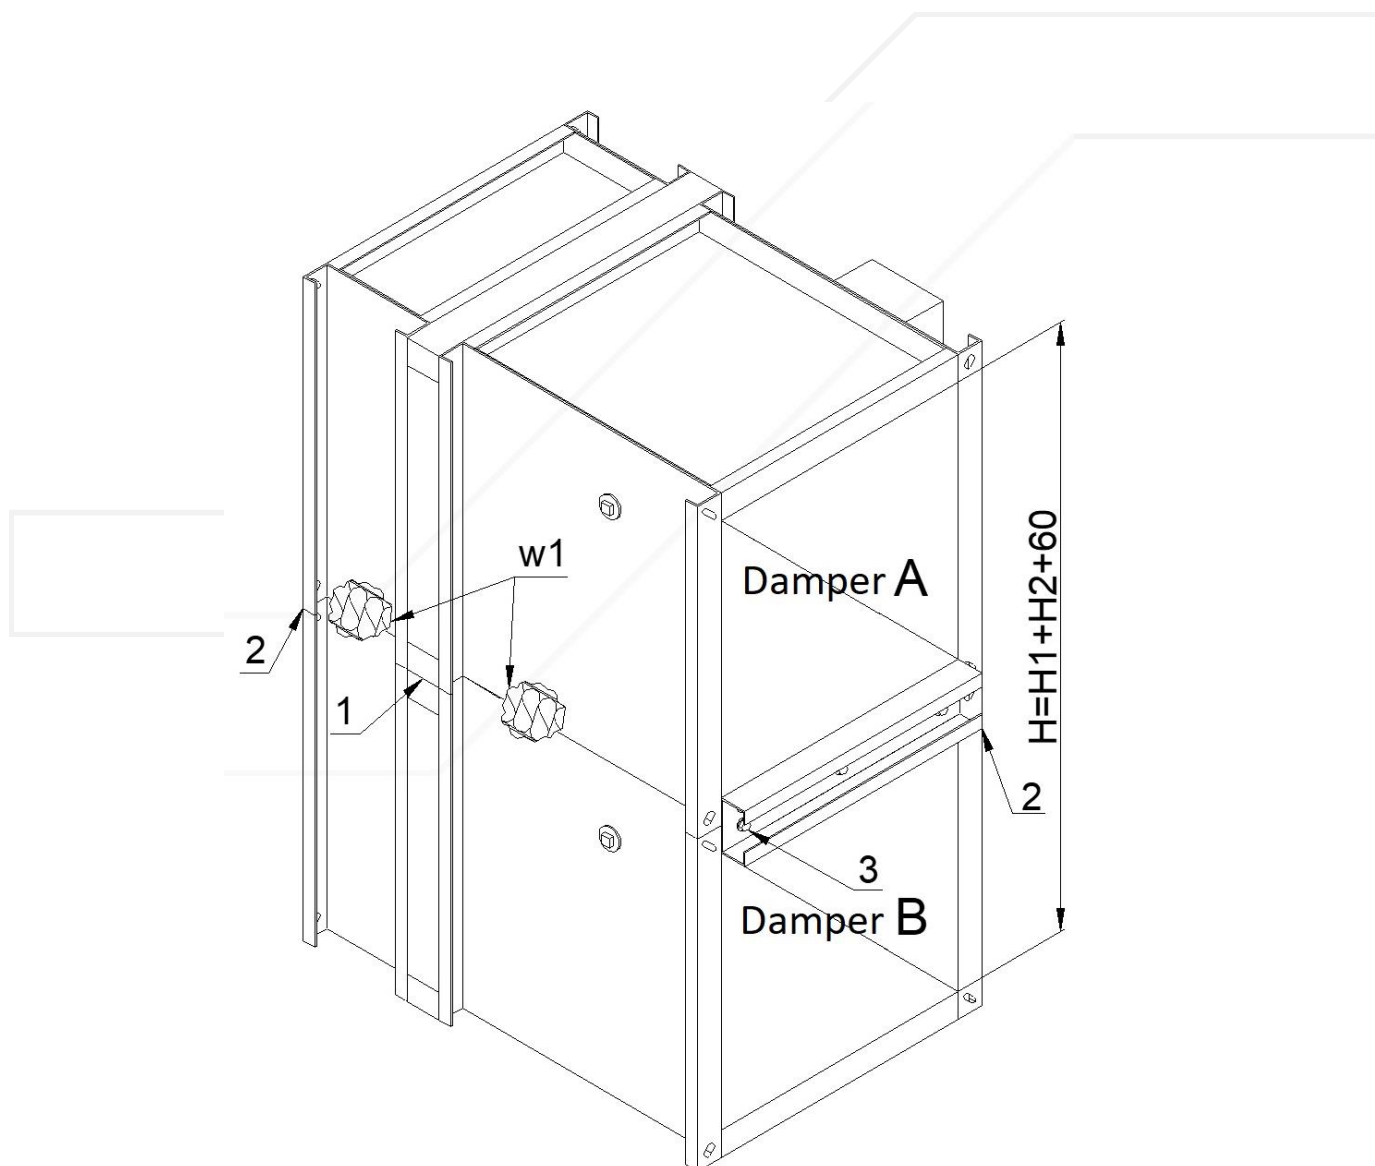

Figure 9. Arrangement 1 - vertical battery consisting of two fire dampers KWP
The KWP-O-E(S) damper can be installed also in horizontal compartments thicker than length of damper's body. In this case, ventilation ducts are going to be partially inbuilt in the fire compartment (Figure 9).